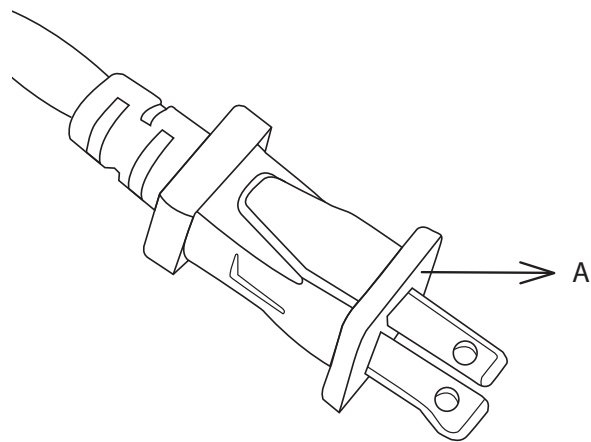

Figure 6
- The electric cord has a polarized plug (Fig. 6), with one prong slightly longer and wider than the other. This plug can be inserted only one way into a polarized outlet. If the plug does not fit properly in the outlet, unplug it from the outlet and insert it in the reverse direction. If it still does not fit, seek the assistance of a qualified electrician.